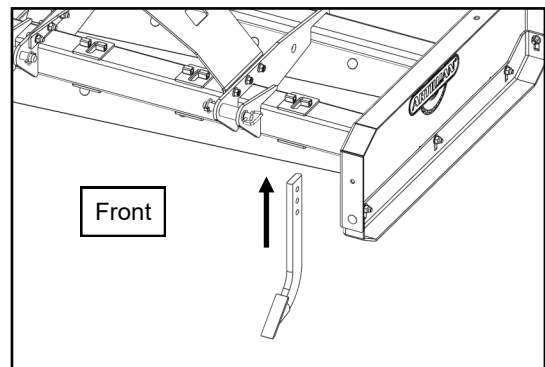

Fig. 16 (Upper link with top link pin and bushing)
16. Position a scarifier blade as shown in Figure 16 beneath the main tube of the Land Plane.